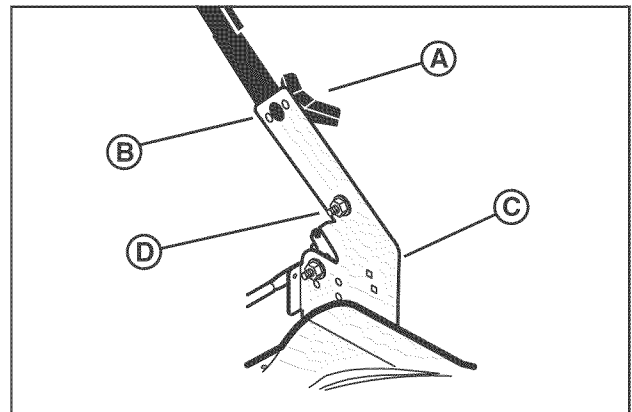

Figure 1: Unfolding the lower handle
3. Remove the wingnuts (A, Figure 1), washers (not shown), and bolts (B) from the right and left handle brackets (C).